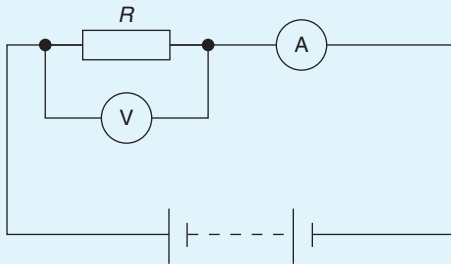

Figure 5.58
11. If in the circuit shown in Fig. 5.58, the reading on the voltmeter is 5 V and the reading on the ammeter is 25 mA, the resistance of resistor R is: